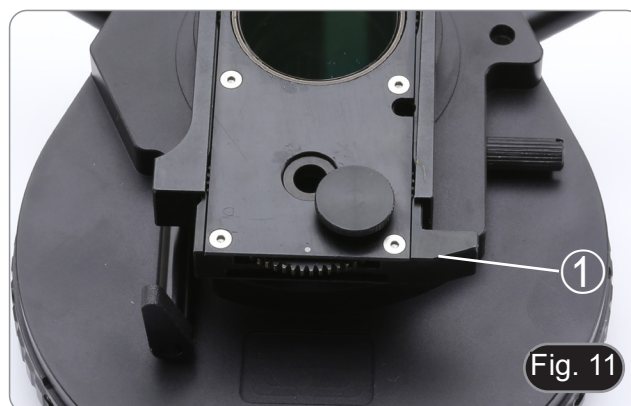

Fig. 11
- Pull the lever of the polarizer ① to remove it from the optical path. (Fig. 11)
2. Pull the lever of the polarizer ① to remove it from the optical path. (Fig. 11)